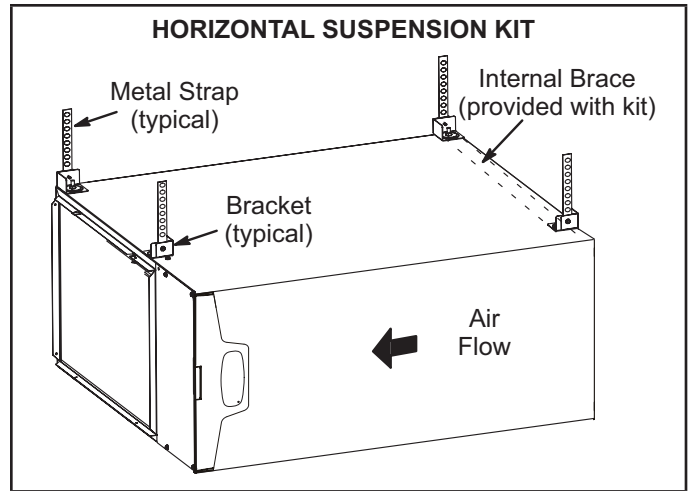

**FIGURE 11**
The SL297UHNV furnace can be installed in horizontal applications with either right- or left-hand air discharge. Refer to figure 11 for clearances in horizontal applications.
- 1 - Select location for unit keeping in mind service and other necessary clearances. See figure 11.